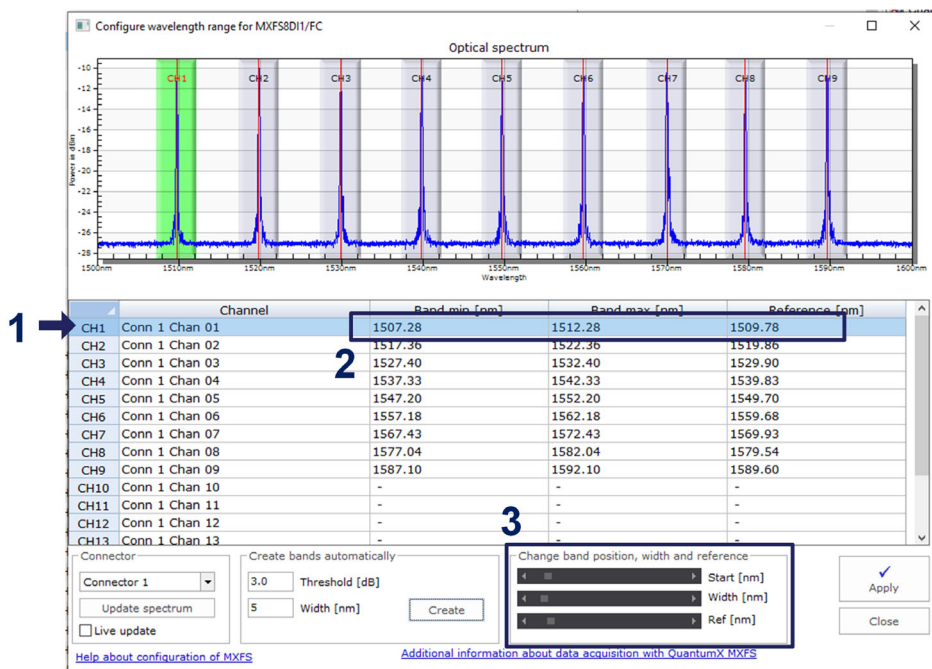

Fig. 5.12 Adjusting the bands
- ▶ Selecting the desired channel line (line will be highlighted in blue on the table and the band will be highlighted in green on the graph) - number 1 in Fig. 5.12.
- ▶ Writing on the table the minimum band value, maximum band value and reference wavelength - number 2 in Fig. 5.12 .
- ▶ Or adjusting the minimum band value, maximum band value and reference wavelength with the scroll bars at the bottom - number 3 in Fig. 5.12.